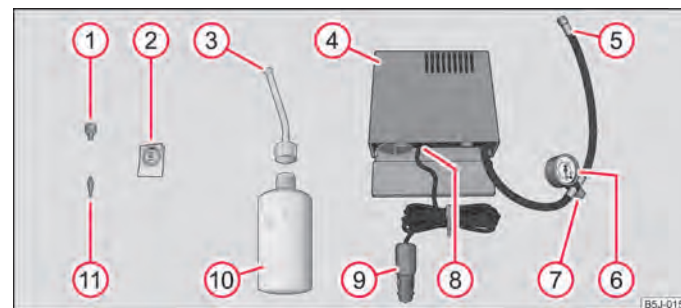

Fig. 141 Components of the tyre repair kit
- Stick the sticker **(2)** → fig. 141 on the dash panel in view of the driver.
- Forcefully shake the tyre inflator bottle **(10)** → fig. 141 several times.
- Screw the tyre inflation hose **(5)** → fig. 141 of the air compressor firmly onto the tyre valve.